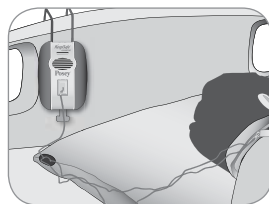

Fig. 11
4. Pull bracket wire away from alarm to create an opening wide enough to fit the head or footboard. Slide bracket onto bed and push down to ensure a snug fit (fig. 11). Make sure indicator lights are in clear view of staff.